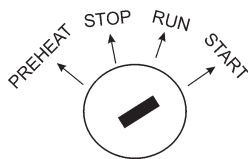

Figure 52. Engine Ignition Switch (Start)
9. Turn the ignition key to the “**START**” position (Figure 52) and listen for the engine to begin cranking. After the engine starts release the ignition key.